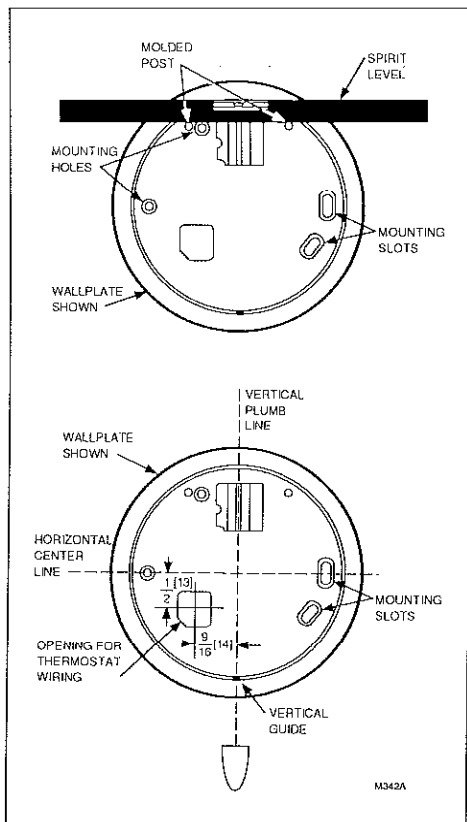

Fig. 10—Level Q539 using a spirit level or plumb line (mm dimensions in brackets).
6. Level the thermostat subbase using a plumb line or spirit level as shown in Fig. 10.